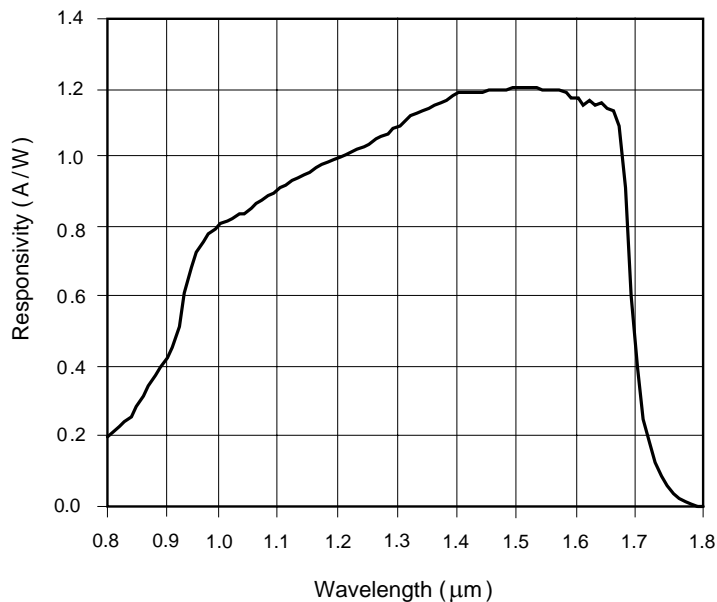

Fig. 1: Spectral Responsivity of SM05PD5B Mounted InGaAs-Photodiode
The Thorlabs SM05PD5B Mounted InGaAs-Photodiode is ideal for measuring both pulsed and CW light sources, by absorption of photons or charged particles and generate a flow of current in an external circuit, proportional to the incident power. The photodiode anode produces a current, which is a function of the incident light power (P) and the wavelength (λ). The responsivity R_λ, can be read from Fig.1 to estimate the amount of photocurrent to expect. This can be converted to a voltage by placing a load resistor (R_L) from the photodiode anode to the circuit ground. The output voltage is derived as: